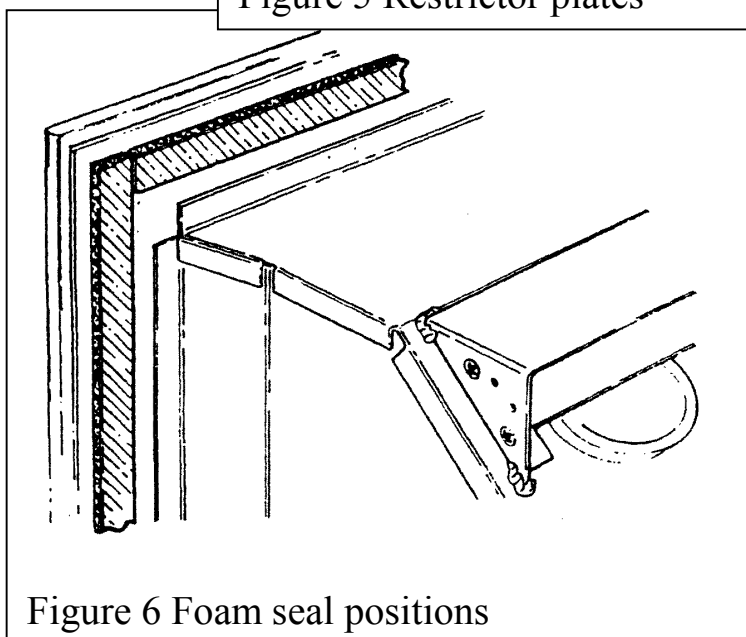

Figure 6 Foam seal positions
5. Three strips of self adhesive foam sealing material are supplied. Remove the protective backing from the seals and fit them to the rear of the convector box top and side flanges (See figure 6). Ensure that there is no gap between the seals where they meet and that there is full contact with the fireplace front.